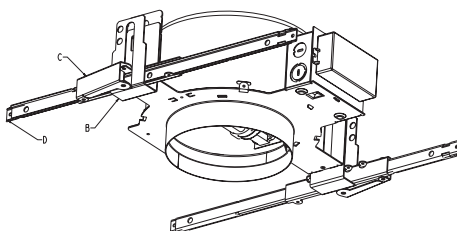

Figure 1
1. Open lever (C) securing bar hangers - bend ends of hangers 90° (D) to be used as nailing tabs, center in the vertical slot, and close lever (C) to lock; repeat on opposite side. Refer to Figure 1.